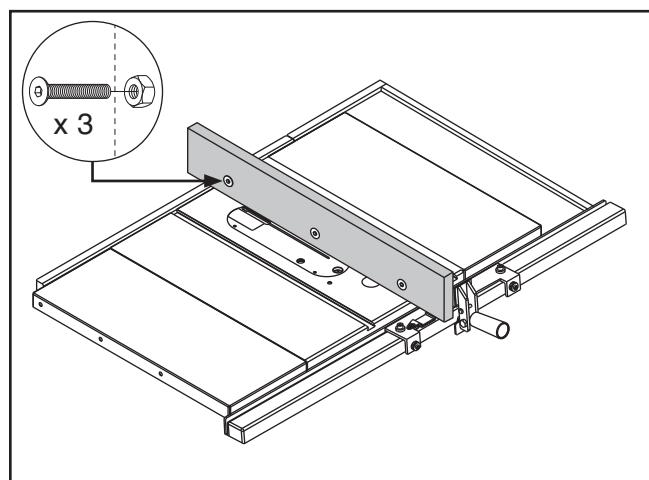

Figure 74. Example auxiliary fence attached to included fence.
- Insert cap screws through holes in auxiliary fence board (see **Figure 74**).
- Align cap screw threads with hex nuts and tighten (see **Figure 74**).